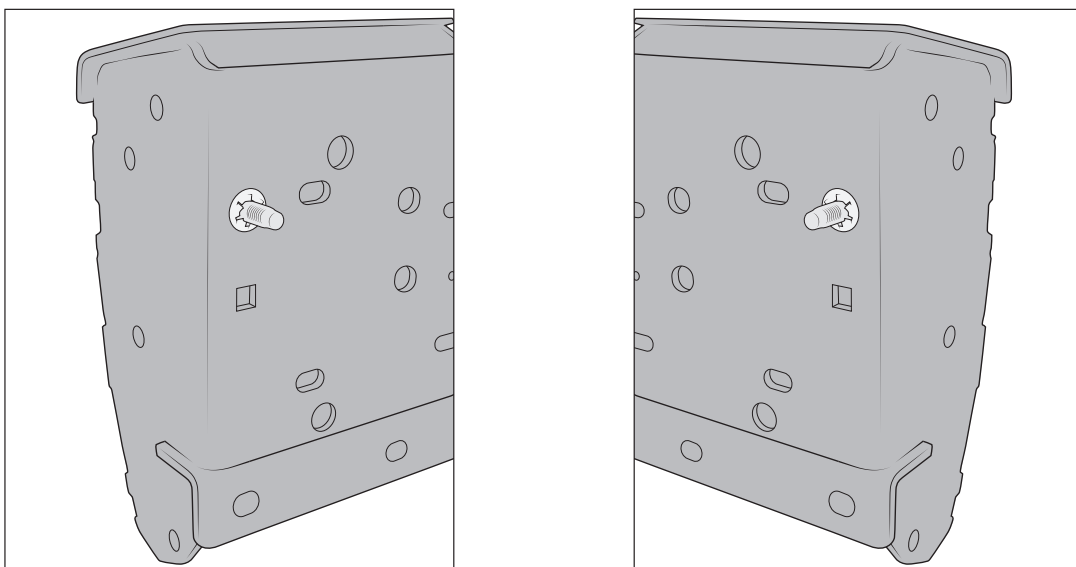

Figure 16
6. Install two (2) M12 x 35 carriage bolts in the upper-outside corners of bumper and secure with push nuts (fig. 16).